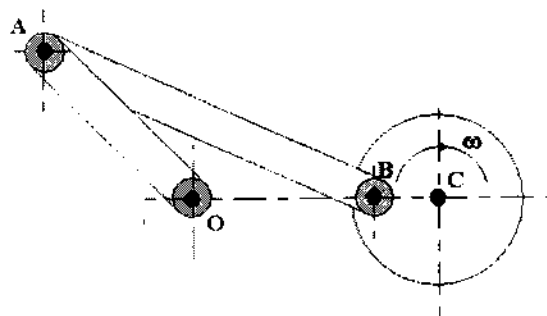

FIGURE Q5(c)
- (c) Figure Q5 (c) shows a “rocking lever” mechanism in which steady rotation of the wheel produces an oscillating motion of the lever OA. Both the wheel and the lever are mounted in fixed centres. The wheel rotates clockwise at a uniform angular velocity, ω of 100 rad/s.